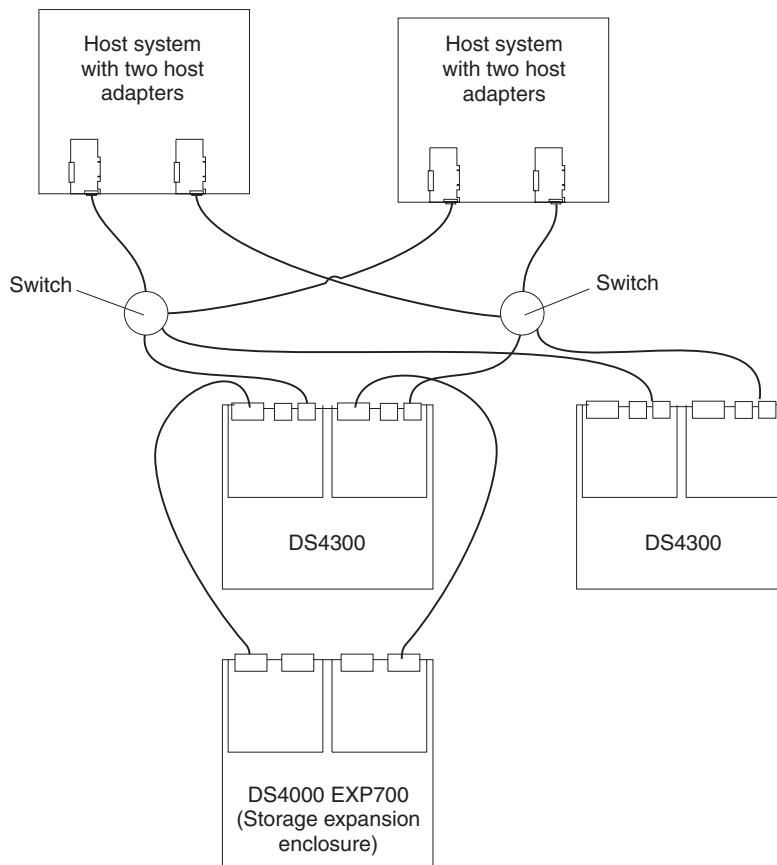

Figure 23. Example of a dual-SAN fabric zone configuration (Model 60U/60X)
- Dual SAN fabric zone configuration, with an additional DS4300 storage server and an EXP700 attached (Figure 23 on page 28)